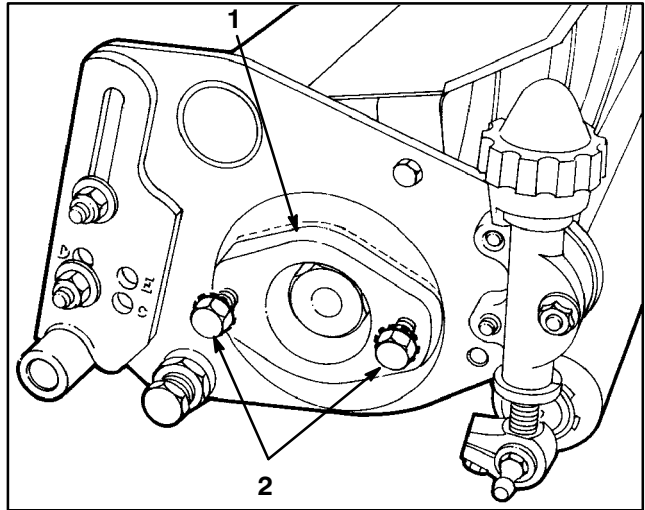

Figure 18
3. Remove the mounting bolts from the bearing housing; both ends of cutting unit (Fig. 18).